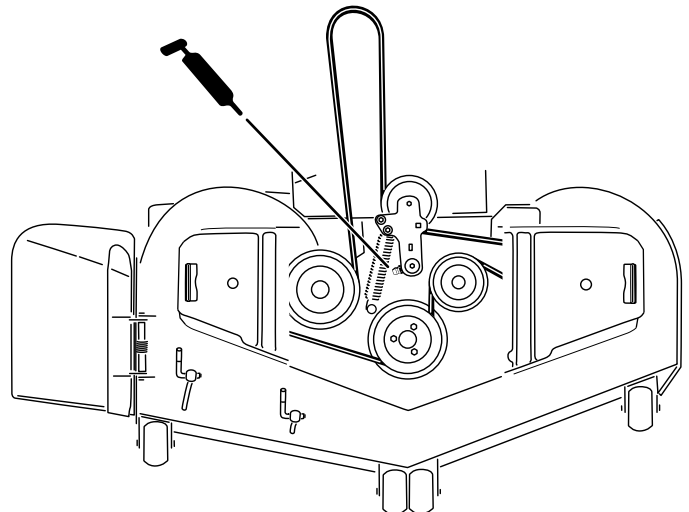

Figure 42
3. Grease the mower deck idler-pulley pivot until grease comes out the bottom (Figure 42).